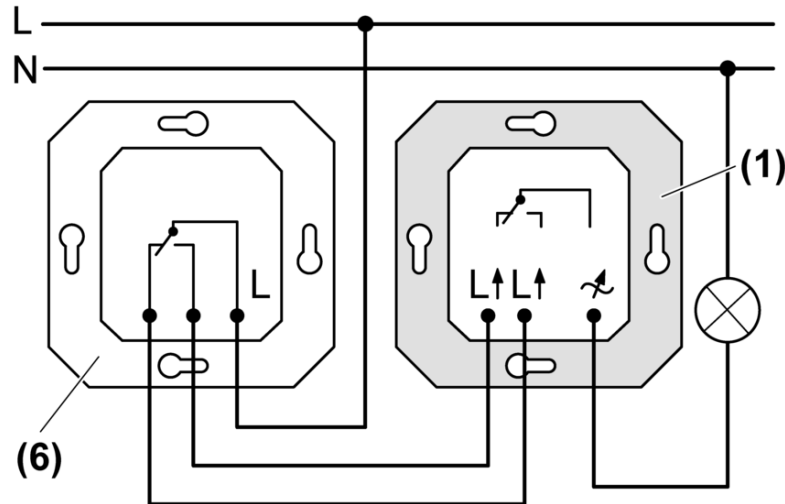

Figure 3: Changeover switch
- Connect the dimmer (1) and the changeover switch (6) according to the connection diagram (Figure 3)